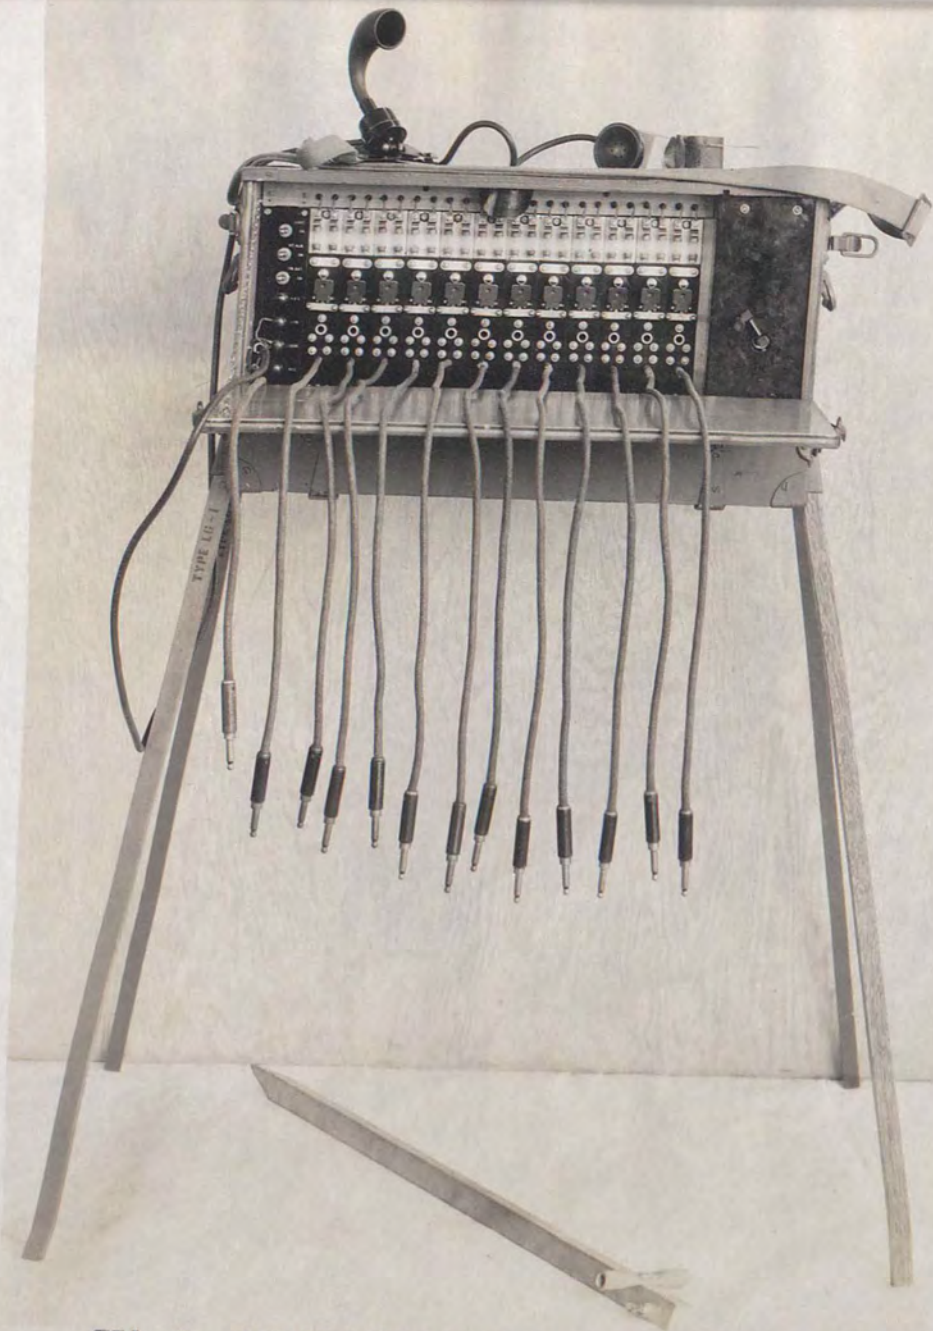

FIG. 5 - SWITCHBOARD BD-82-T2, FRONT, OPEN
- Fig. 5 - Switchboard BD-82-T2, front, open.